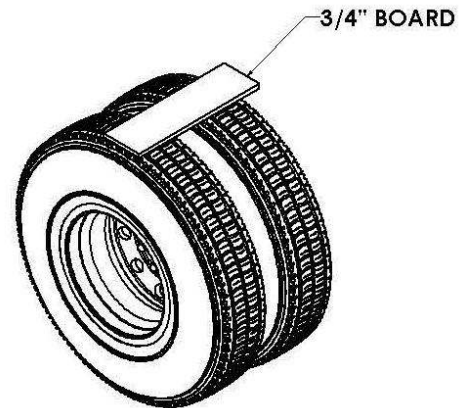

Figure 2
- a. For an air suspension system, place a $\frac{3}{4}$ ” board on top of the tires after the air has been let out of the airbags (Figure 2). Place the fender on top of the board.